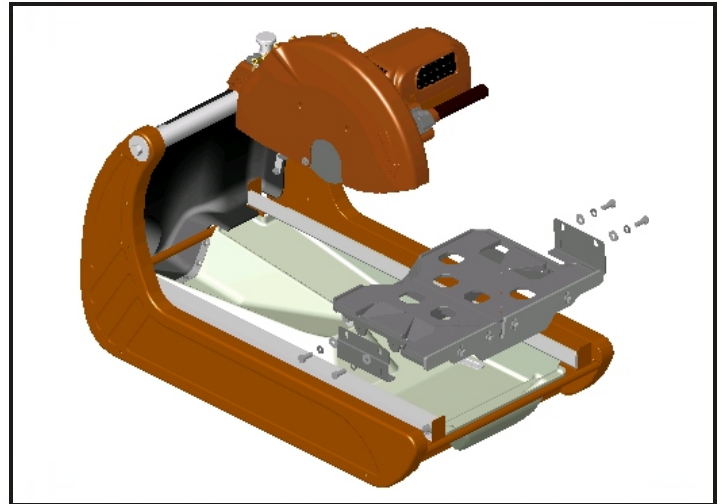

Figure 3-2: Conveyor Removal
1. Remove the hardware that attaches the Conveyor Cart Mounting Brackets (see Figure 3-2: Conveyor Cart Removal).